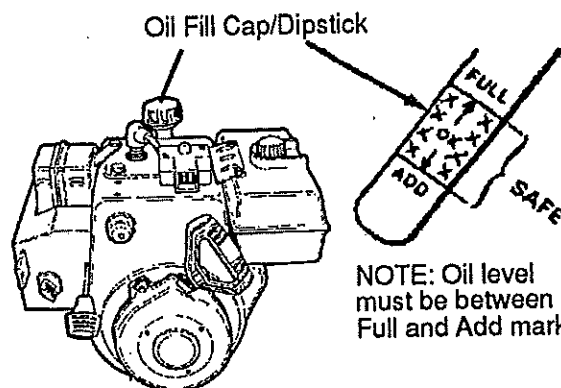

FIG. 6-OP
**NOTE:** The engine on this snow thrower was shipped without oil. 5W30 oil is included with this unit and must be added to the engine before operating. Remove the oil fill cap/dipstick and fill the crank case to "FULL" line on dipstick (See FIG. 6-OP) with S.A.E. 5W-30 motor oil (or equivalent). Do not overfill. Tighten the fill cap/dipstick securely each time you check the oil-level.